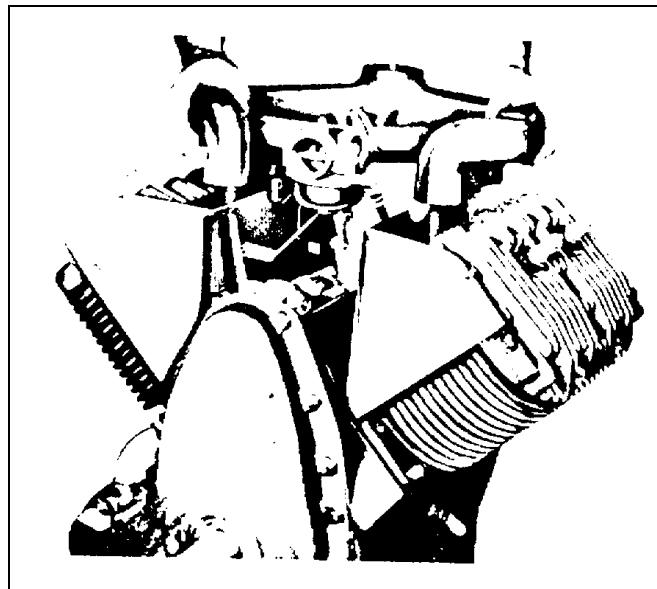
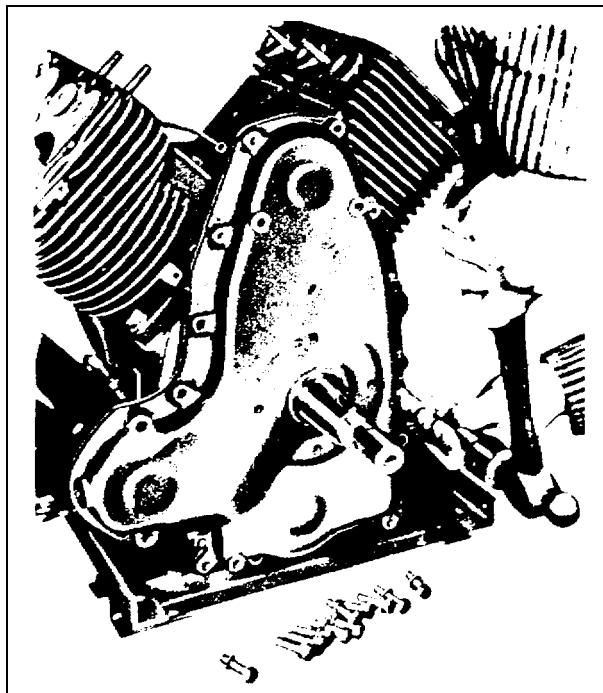
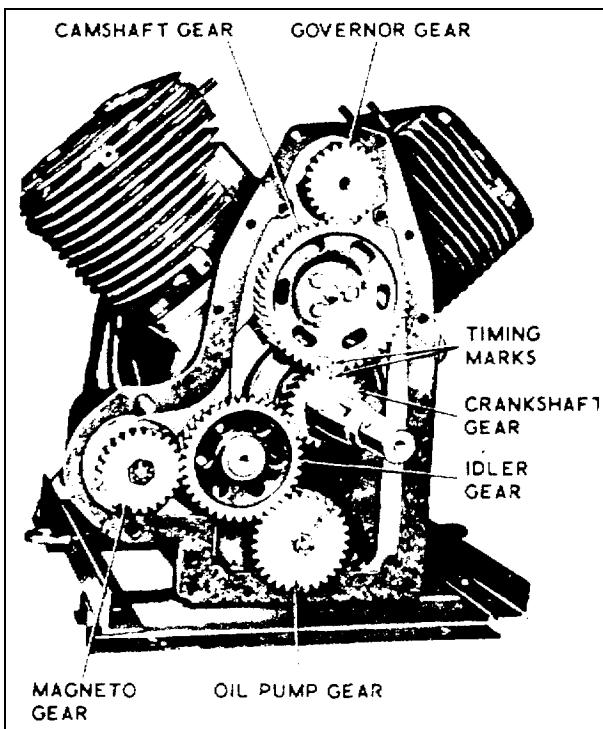

Figure 4-8. Removing Carburetor and Manifold
Figure 4-9. Removing Gear Cover
Figure 4-10. Timing Gears
(2) Remove carburetor and manifold as an assembly. See figure 4-8. Remove cylinder heads.
(3) Disconnect governor linkage and remove governor assembly. Remove gear cover screws and drive out two dowel pins as shown in figure 4-9. Remove gear cover exposing timing gears as shown in figure 4-10. Remove camshaft thrust plunger and spring to prevent loss.
(5) Invert engine and remove oil pan and supports. See figure 4-12. Take out slotted pipe plug (figure 4-13) and then, use a 5/32 inch allen wrench to remove oil pump lock screw. Remove lock nut holding oil pump driving gear (figure 4-10) to shaft. Use a soft brass rod or punch and drive shaft through gear as shown in figure 4-14. Withdraw oil pump toward center of crankcase.
(2) Position crankshaft in crankcase and install main bearing plate. Use additional shims on main bearing plate if necessary to obtain crankshaft end play of 0.002 to 0.004 inch when engine is cold. Timing marks on crankshaft gear and camshaft gear must match up (figure 4-10) otherwise engine will not operate properly if timing will be off and engine will not run. The word TOP is cast on outside of main bearing plate and must be mounted accordingly. Mounting main bearing plate upside down would prevent proper lubrication. Tighten main bearing cap screws 25 to 30 foot pounds torque.
(6) Position oil pump in crankcase and attach oil pump drive gear (figure 4-10) with lock nut. Tighten oil pump lock screw with 5/32 inch allen wrench (figure 4-13) and install slotted pipe plug. Install oil pan with deep end toward oil pump. Tighten mounting screws 6 to 9 foot pounds torque.
(8) Install gear cover (figure 4-9) and tighten gear cover cap screws 14 to 18 foot pounds torque. Install governor and governor housing.
(9) Remove all carbon and lead deposits from cylinder heads. Use a new cylinder head gasket at assembly. Apply a mixture of graphite and oil to cylinder head screws to prevent them from rusting tight against cylinder block. Tighten cylinder head screws 25 to 32 foot pounds torque and, after complete assembly and engine is run-in, retorque head screws.
(10) Install carburetor and manifold assembly figure 4-8). Tighten manifold mounting nuts 40 to 50 foot pound torque. Overtightening may cause flanges to break.